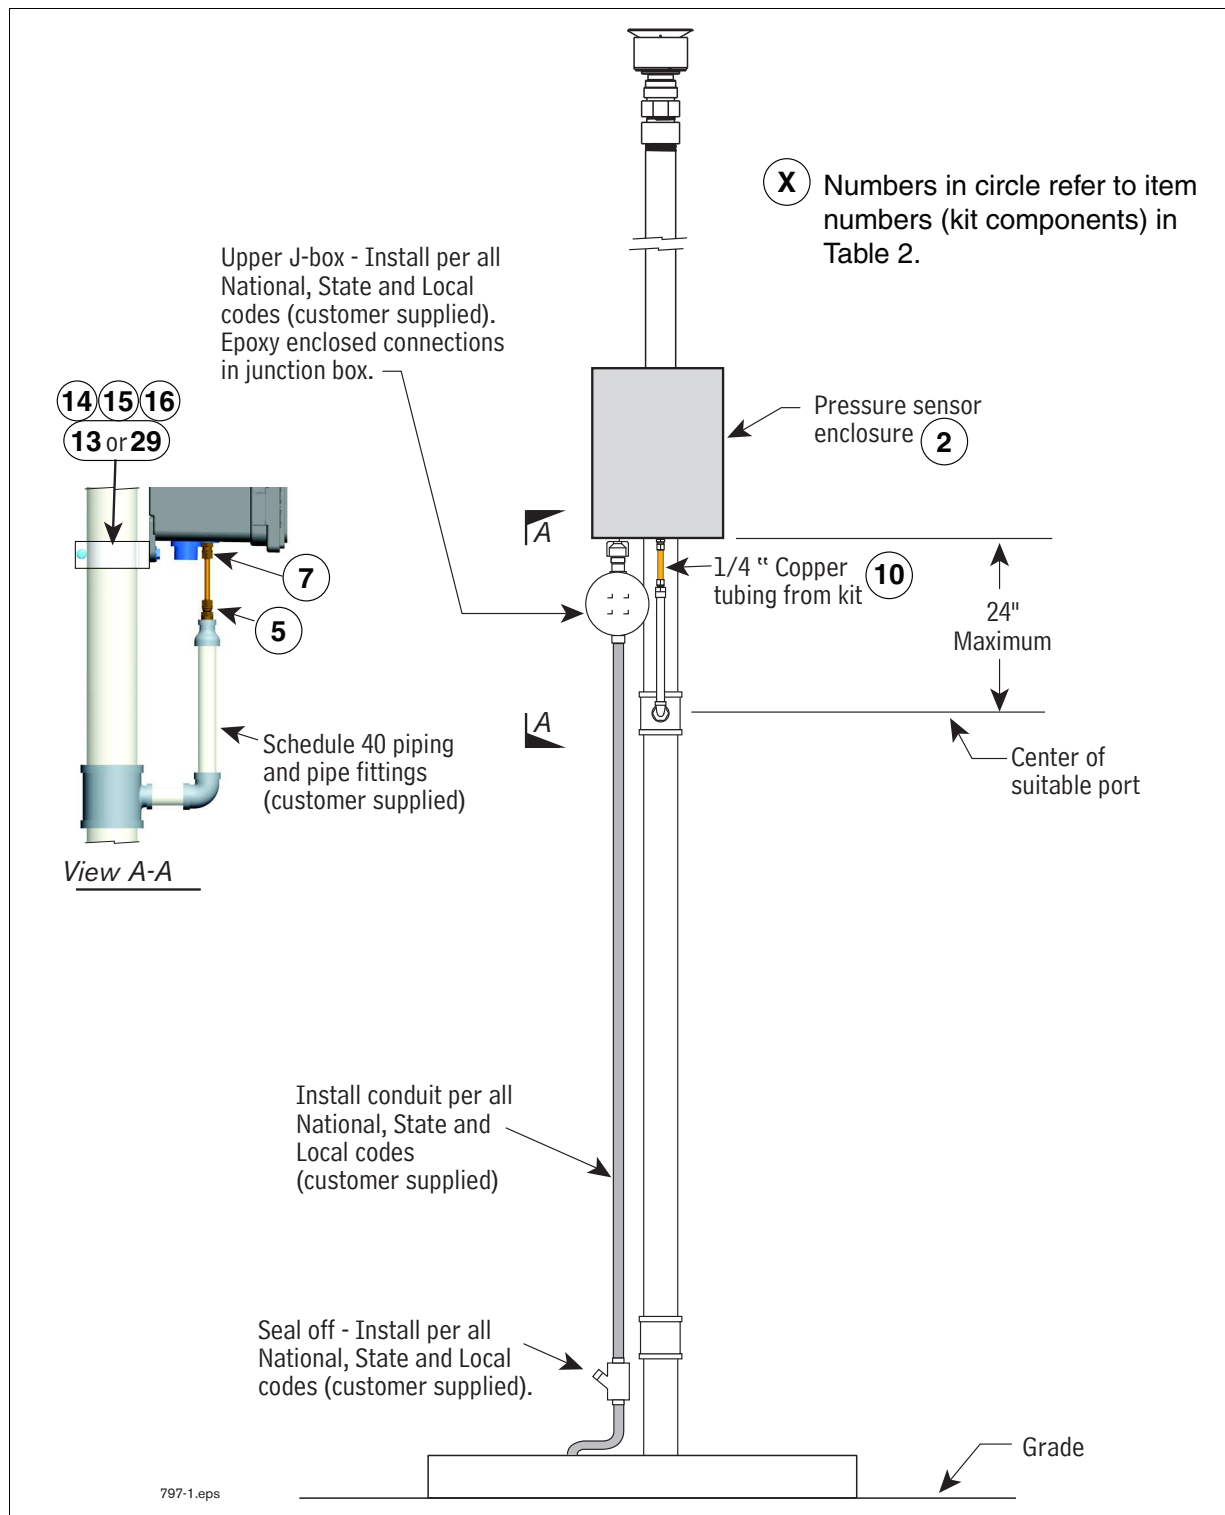

Figure 10. Locating Pressure Sensor Enclosure in Vapor Vent Stack
3. Locate a suitable port in an existing Schedule 40 piping fitting (tee, cross, etc.) or plumb a suitable Schedule 40 pipe fitting (tee, cross, etc.) into the vapor vent stack line (maximum length of copper tubing limited by dimension in Figure 10).
16. Mount the plastic enclosure onto the vapor vent stack or suitable rigid structure ABOVE the vapor vent stack port using two conduit clamps (for 2" or 3" pipe), bolts, nuts, and washers included, or use other customer supplied suitable mounting hardware (Example: Unistrut®). Leave the mounting hardware somewhat loose for later enclosure height adjustment (see Figure 10).
18. Install one 68CA-4-4 male connector (item 5 in Table 2) onto the top of the new pipe (see View A-A, Figure 10).
19. Measure, fabricate, and install 1/4" OD copper tubing (item 10 in Table 2) between the bulkhead union and the male connector. Adjust the enclosure vertically on vent pipe to make sure the copper tube is fully inserted into the bulk head union and male connector.
23. Install 1/2" electrical conduit from the conduit hub in the bottom of the enclosure to the customer supplied weather-proof junction box (see Figure 10).
24. Route the cable from the pressure sensor to the junction box under the enclosure. Observing polarity, connect the sensor wiring to the field wiring from console and cap with wire nuts (see Figure 10).